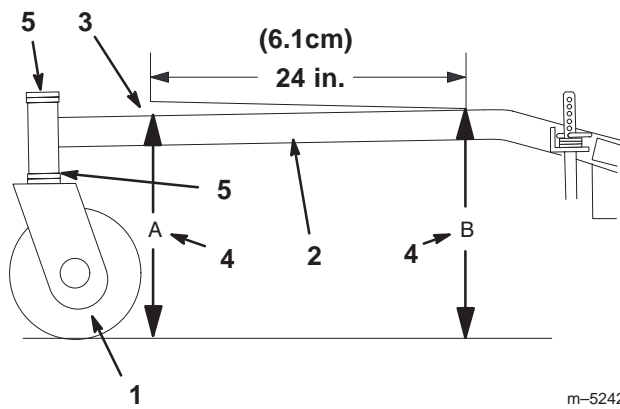

Figure 47
1. Measure out 24 inches on the carrier frame (Fig. 47).
2. Measure carrier frame height at location “A” (Fig. 47).
3. Measure carrier frame height at location “B” (Fig. 47).
4. The height at location “A” must be a 1/4–3/8 in. (6 mm –10 mm) lower than location “B” (Fig. 47).
5. If the carrier frame is not correct, move caster spacers to make it a 1/4–3/8 in. (6 mm –10 mm) pitch (Fig. 47). Move spacers from top or bottom to make the correct pitch.